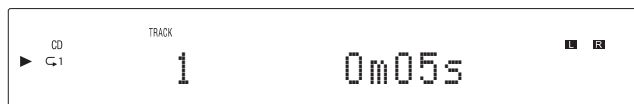

Figure 23
1. With the disc playing (Regular, Program or Random Playback Modes), press the REPEAT Push-button once to activate the Track Repeat (G1); press the REPEAT Push-button twice to activate the Disc Repeat (G2). Refer to figures 23 and 24.